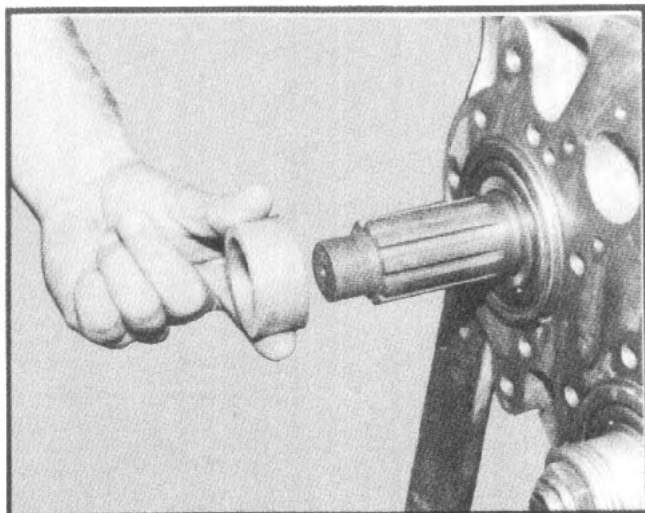

Fig. 25
11. Slip spacer ring (1.000" wide) over front of upper shaft and against upper shaft front bearing (See fig. 25).
6. Slip spacer ring (1.000" wide) over front of input shaft and against bearing (See fig. 25).